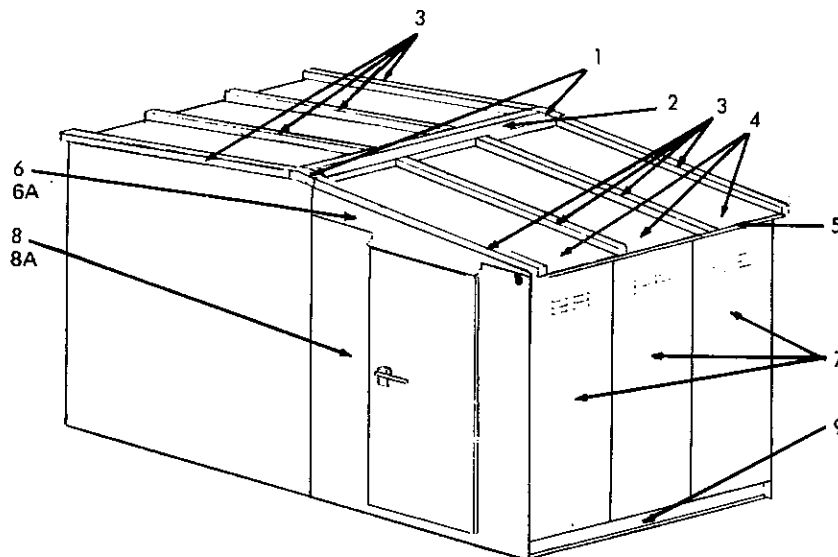
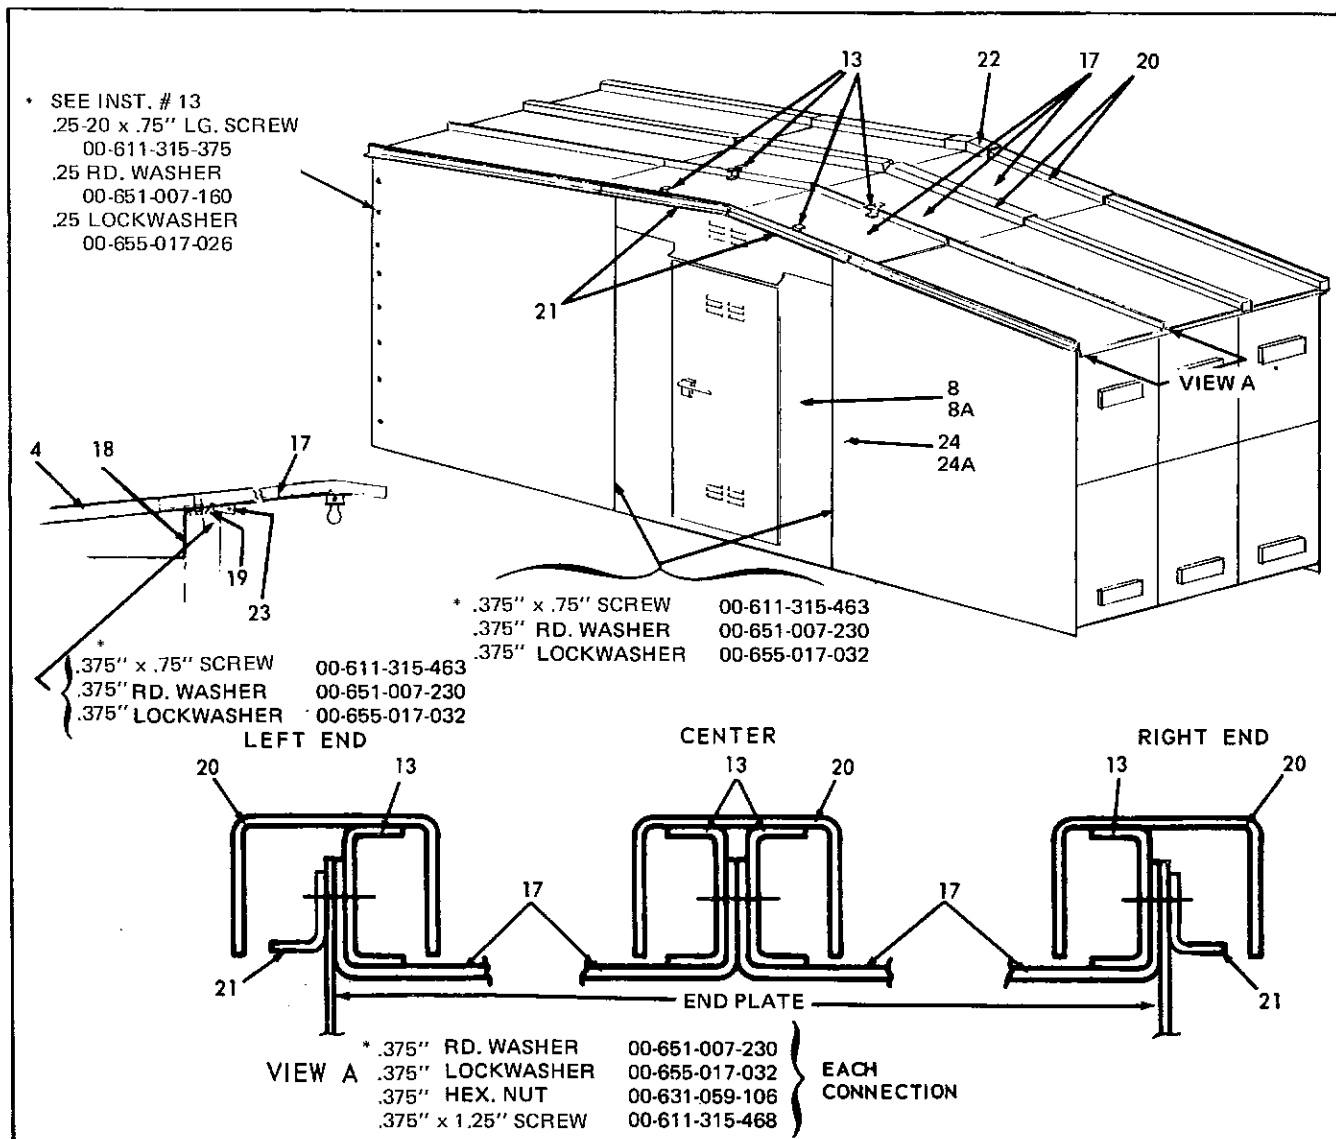

Figure 44. Removing Components from Existing Switchgear
Figure 46. Roof Installation
1. See Figure 44. From the existing switchgear remove the gable ends (1), and roof gable (2). Discard these parts.
2. Remove the roof channels (3), roof covers over aisle (4), formed cover (5) and all associated hardware. On 5 KV switchgear save all these pieces. On 15 KV switchgear save only the cover (5) and associated hardware.
4. Remove front plates (7) by unbolting from door frames (8 and 8A) and from I-Beam (9). Discard plates (7) but retain filter (11).
8. Install adaptor floor plates (12) between the new units and the I-beam (9).
9. Mount roof covers (4) on the new units, bolting together using special channel brackets (13) similar to the aisle construction just disassembled.
10. Add trim angle (14) at each end of the group. (On 15 KV equipment items 4, 13 and 14 are shipped assembled).
11. When installing conduit, drill plate (15) to suit. Clamp plate with angle (16).
12. See Figure 46. Place aisle roof decks (17) in position. Bolt them to the roof support (18) using bevel washers (19). See inset.
13. Bolt roof decks (17) together with brackets (13). See view "A". Leave hardware finger tight until Step 15 is complete.
14. Set channel-shaped covers (20) over the joints of roof decks and slide up the covers so the clips on the inner surface (See Figure 46) engage the brackets (13).
15. Add trim angle (21) to each end of the aisle. Tighten bolts.
16. Bolt hoods (22) over the roof channels.
17. Add four covers (23) to seal crack between top of door frame (8) and end plate (24 and 24A) joint. Mount light as shown.
1. Remove end gable assembly (1, Figure 44) from single aisle equipment. Remove the end hood (22, Figure 46) if switchgear has a common aisle.
2. Remove the channel-shaped covers (20) over roof joints from both aisle and switchgear unit. Do this by removing hardware from peak end of the
13. Mount unit side plate and using side plate as template drill #7 (.201") (5.1 mm) dia. holes in back frame angle of new cubicle. Using .25-20 (do not use metric tap) tap cut threads in these holes. Add and secure hardware (see Figure 46). The addition of these holes may be omitted if existing cubicle had vertical corner trim angle in which case side plate would not have these extra holes.